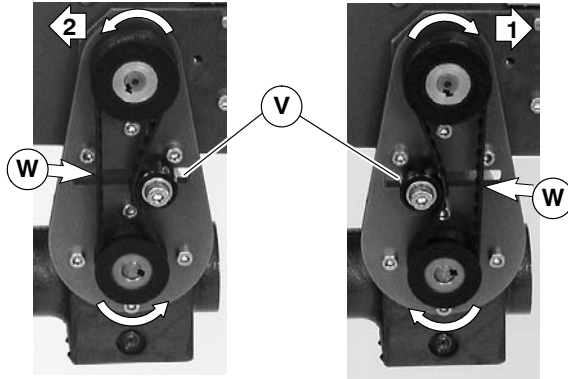

Figure 10
8. Depending on direction of conveyor belt travel (1 or 2 of Figure 10), position belt tensioner (V) as shown. Tension belt to obtain .125" (3 mm) deflection for 1.0 lb (456 grams) of force at belt mid-point (W). Tighten tensioner screw to 103 in-lb (12 Nm).
3. Depending direction of conveyor belt travel (1 or 2 of Figure 10), position belt tensioner (V) as shown. Tension belt to obtain .125" (3 mm) deflection for 1.0 lb (456 grams) of force at belt mid-point (W). Tighten tensioner screw to 103 in-lb (12 Nm).
5. Depending direction of conveyor belt travel (1 or 2 of Figure 10), position belt tensioner (V) as shown. Tension belt to obtain .125" (3 mm) deflection for 1.0 lb (456 grams) of force at belt mid-point (W). Tighten tensioner screw to 103 in-lb (12 Nm).